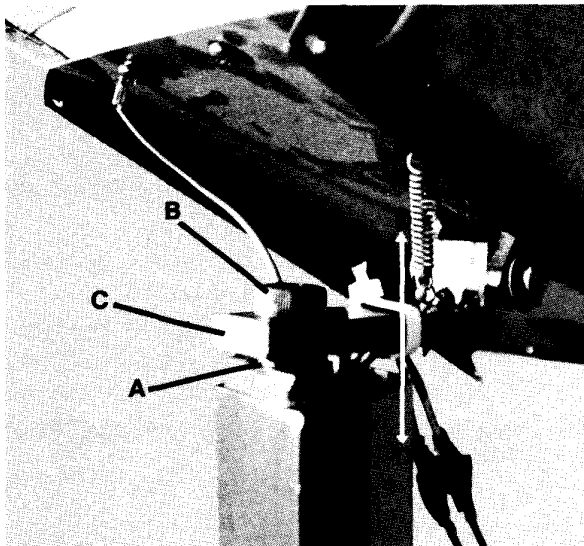

Fig. 5
8. Inspect the leg support upholstered section pivot, Item A, Fig. 5. The pivot bolt, Item B, Fig. 5 should not turn as upholstered section rotates. Also, the support arm, Item C, Fig. 5 should have very little play along the DD axis.
- a. while supporting the upholstered section, remove the pivot bolt, Item B, Fig. 5 with a 5/16" allen wrench.